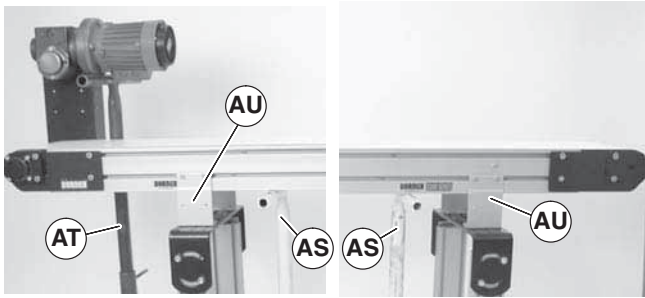

Figure 21
1. Place temporary support stands (Figure 21, item AS) at both ends of the conveyor. Place an additional support stand under the drive motor (AT), if equipped. See WARNING.
2. Remove mounting brackets (Figure 21, item AU) from one side of conveyor. (Reverse steps 3 & 4 of “Mounting Brackets” section on page 8).
1. Ensure temporary support stands (Figure 21, item AS) are placed at both ends of the conveyor. Place an additional support stand under the drive motor (AT), if equipped. See WARNING.